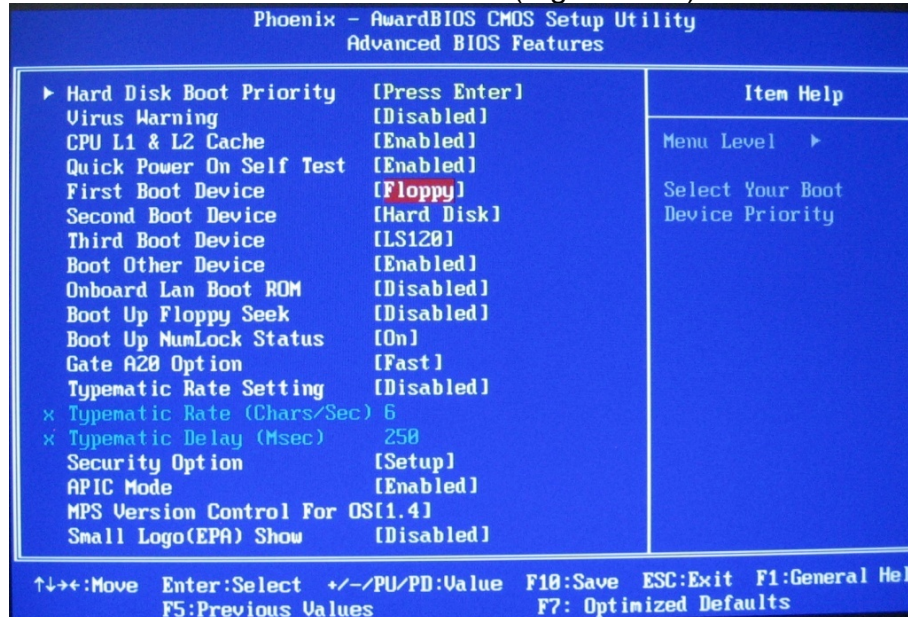

Figure 7-15 First Boot Device
5. On the **Advanced BIOS Features** screen scroll down to **First Boot Device** and Press **Enter**. (Figure 7-15).